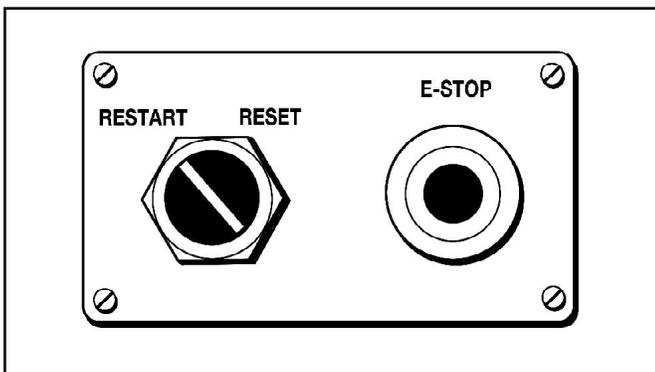

Figure 4.3 - Remote Station
(See Figure 4.3)
1. **Remote Station** - One remote station is included with the *PosiWeave* Control. (See Figure 4.3) Additional remote stations can be added, particularly at the rear of the machine if the operator will be removing rolls.